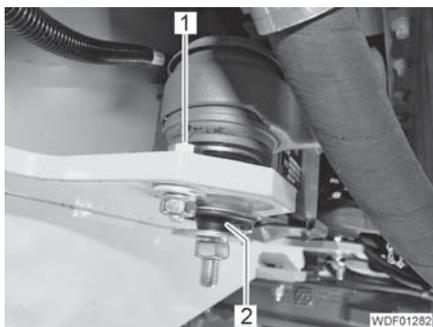

Fig. 63 Spacer
- Unscrew the 2 screws (Fig. 63,1).
- Remove the spacer (Fig. 63,2).
- Screw in and tighten the 2 screws (Fig. 63,1).